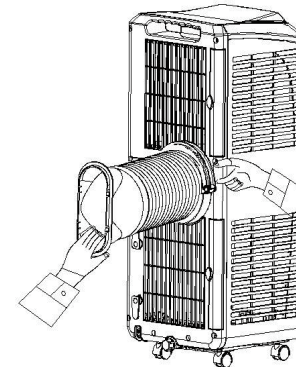

Figure 3
- 2) Hold the end handle of the C shape buckle of the heat exhaust hose with the left hand and the heat exhaust hose short connector with the right hand, put one end of the heat exhaust hose that is pulled apart onto the snap of the lower air duct bottom, press the C shape buckle of the heat exhaust hose with the left hand by force so that the C shape buckle of the heat exhaust hose clips the snap joint of the back shell (as shown in Figure 3)